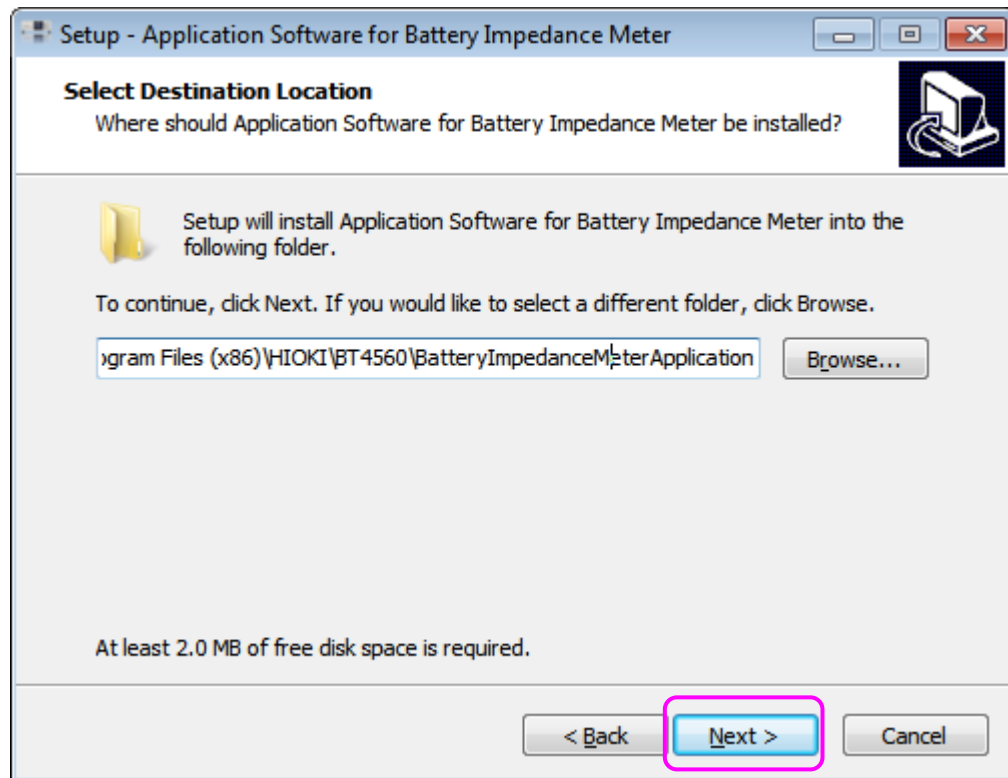

Fig 2-5
Step3 : Click [Next]. (Fig 2-5)